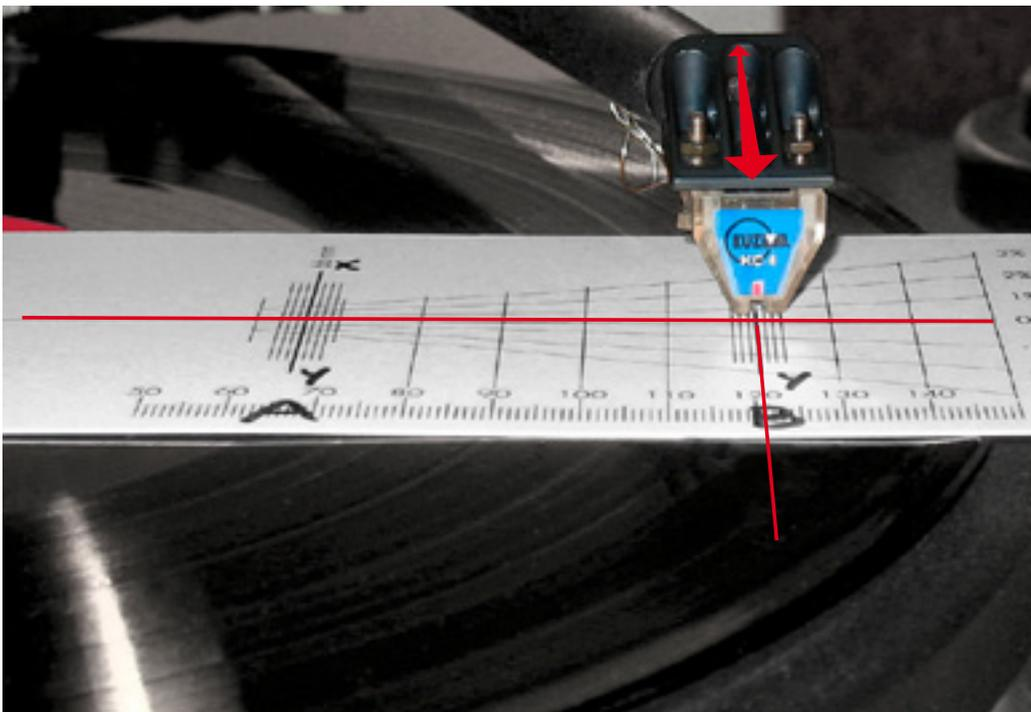
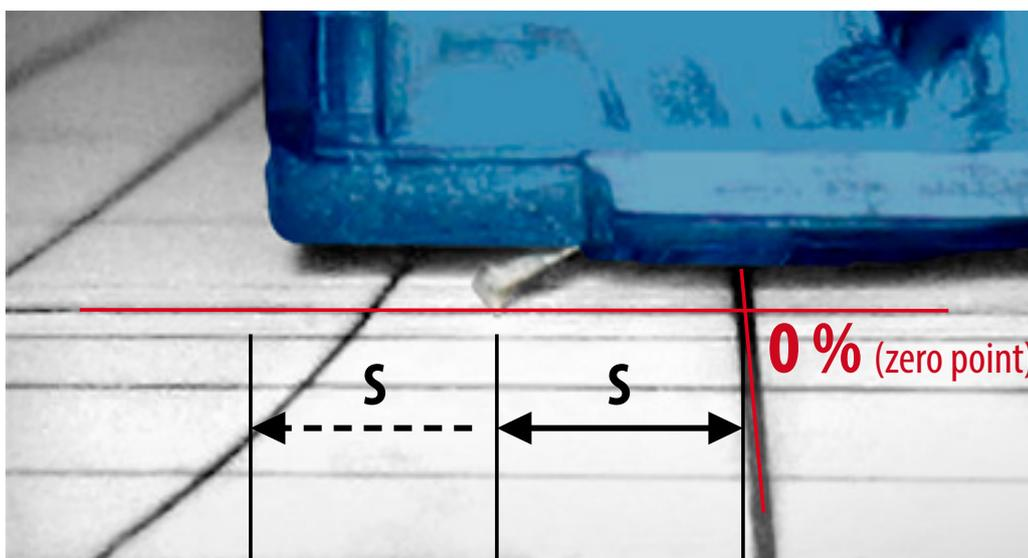

Fig. 28. Alignment at intersection B (outer null line: 'Y-X' and zero line)– cartridge move along headshell
Fig. 29. Stylus tip is in front of zero line for distance 'S'
2. Alignment at intersection B Fig. 28 & 29
Observe the cantilever from the front and rotate protractor until the cantilever is in alignment (parallel) along Y–X line, though the stylus tip will probably be somewhere along this line but not yet at intersection B. Raise the cueing device a little to see better. (Fig. 28 & 29)
If it is behind the zero line, push the cartridge backwards towards the tonearm armbase for the observed distance 'S'. (Fig. 29)
4. Repeat alignment at intersection B *Fig. 29*
- b) **B:** Align the cantilever along 'Y-X' line by rotating the protractor and see where the stylus tip is on the line 'Y-X'. Observe the distance 'S' and whether it is in front or behind the zero line. Fig. 28 & 29. Move the cartridge body along the headshell (not rotating cartridge body) for the observed distance 'S' away from the zero line. Fig. 29.